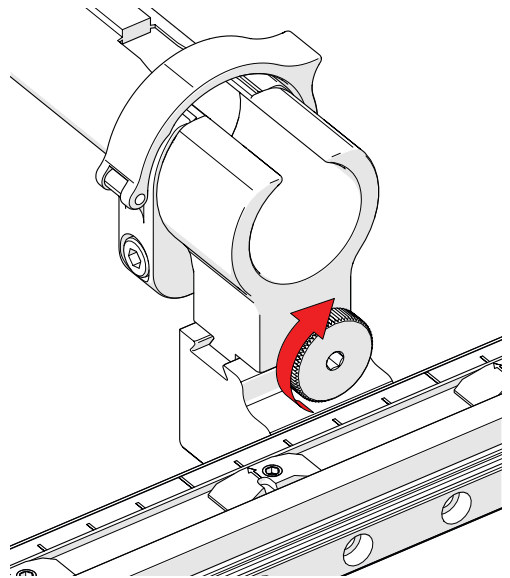

Fig. 52 - Tighten knob
2. Once centred on the dovetail link, tighten the zipper tube's dovetail mount knob (*Fig. 52*).